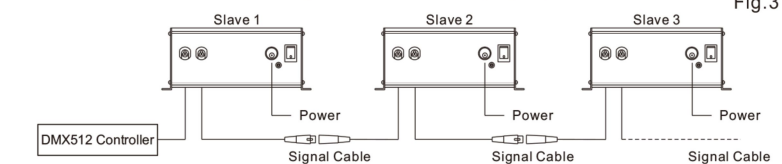

Fig.3
- (5) The connection of DMX Signal Control Mode (Fig. 3):